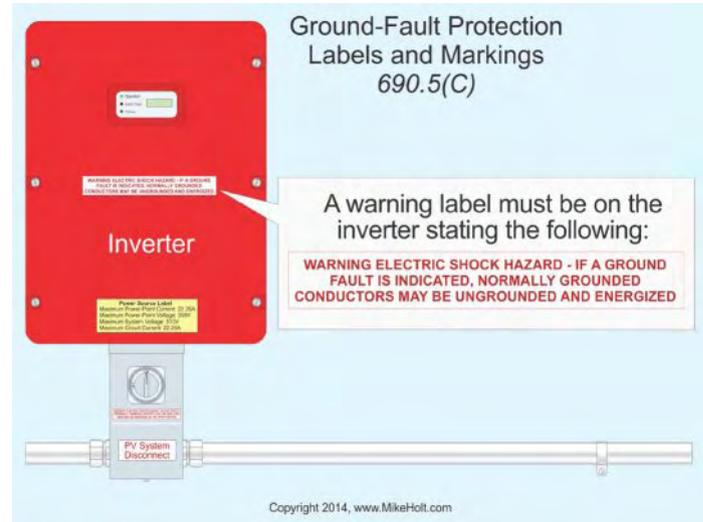

Figure 690–26
- (1) Be capable of detecting a ground fault in the PV array dc current-carrying conductors and components, including any intentionally grounded conductors,
- (2) Interrupt the flow of fault current,
- (3) Provide an indication of the fault, and,
- (4) Be listed for providing PV ground-fault protection.
(C) Labels and Markings. A warning label that isn't handwritten and is of sufficient durability to withstand the environment involved, must be permanently affixed [110.21(B)] on the utility-interactive inverter at a visible location at PV system batteries stating the following: Figure 690–26